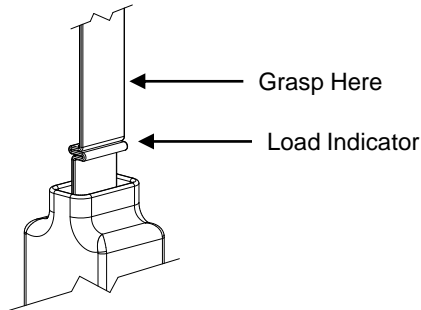

Figure 10
2. Grasp the web above the load indicator (Figure 10) and give the web a quick, sharp tug. The unit should lock, this ensures that the locking mechanism is operating.
4. After the webbing has been allowed to retract into the unit, the webbing should be grasped above the load indicator (see Figure 10) and pulled sharply to verify proper lockup of the unit. If unit fails to lockup when pulled quickly, or if the webbing fails to retract properly after lockup, the unit must be removed from service.